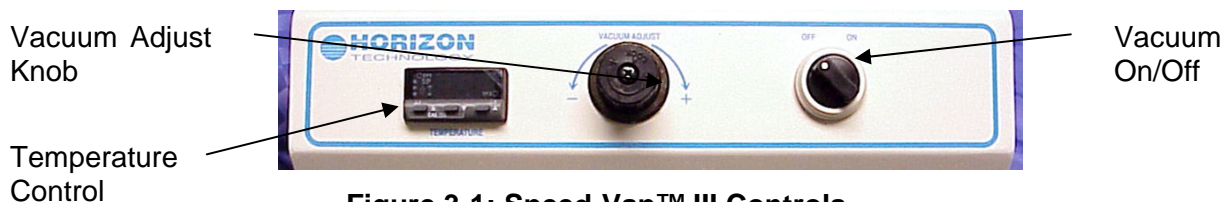

Figure 3-1: Speed-Vap™ III Controls
Use Figures 3-1 and 3-2 to identify the major components of the Speed-Vap™ unit.
- Step 15)** Located on the front panel of the Speed-Vap™ is the Vacuum On/Off switch. Verify that the switch is in the “Off” position. Refer to Figure 3-1.